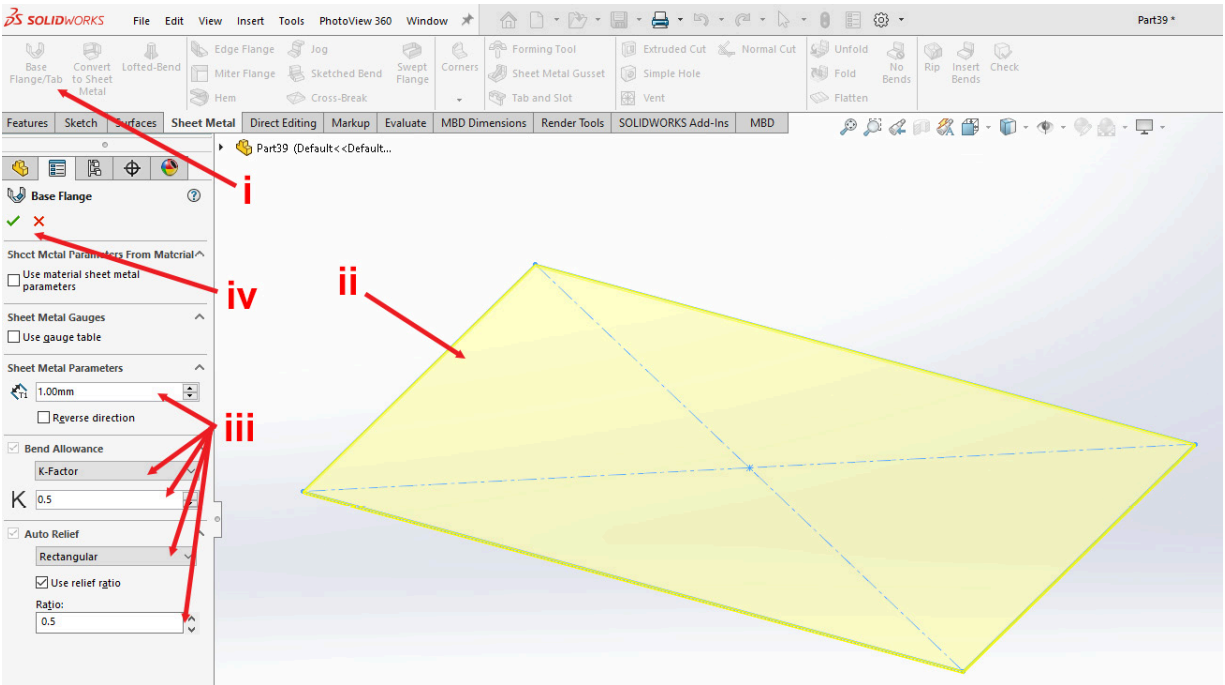

Figure 1.6: Creating a Base Flange feature
6. Select the **Sheet Metal** tab or toolbar and select the **Base Flange/Tab** option—this should be the first icon (labeled **i** in Figure 1.6).
7. You will be prompted to select a sketch. Select the previous sketch that was just drawn and a yellow preview of the **Base Flange** should appear (see Figure 1.6).
- **Ratio:0.5** (labeled **iii** in Figure 1.6)
Press **OK** (labeled **iv** in Figure 1.6) and the **Base Flange** feature is created.